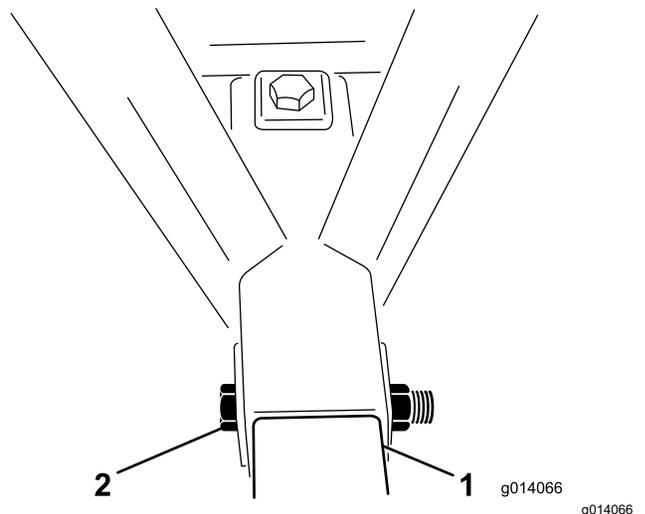

**Figure 3**
3. Remove the hitch from the shipping position by cutting both straps securing the hitch to the fender (Figure 3). Remove both mounting brackets from the fender and discard.